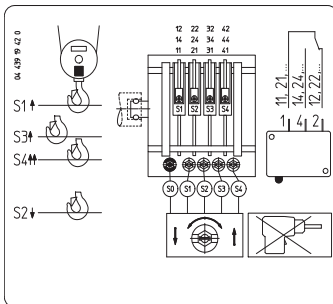

Fig. 3
6.5.2 Standard crane - version II (Fig. 3)